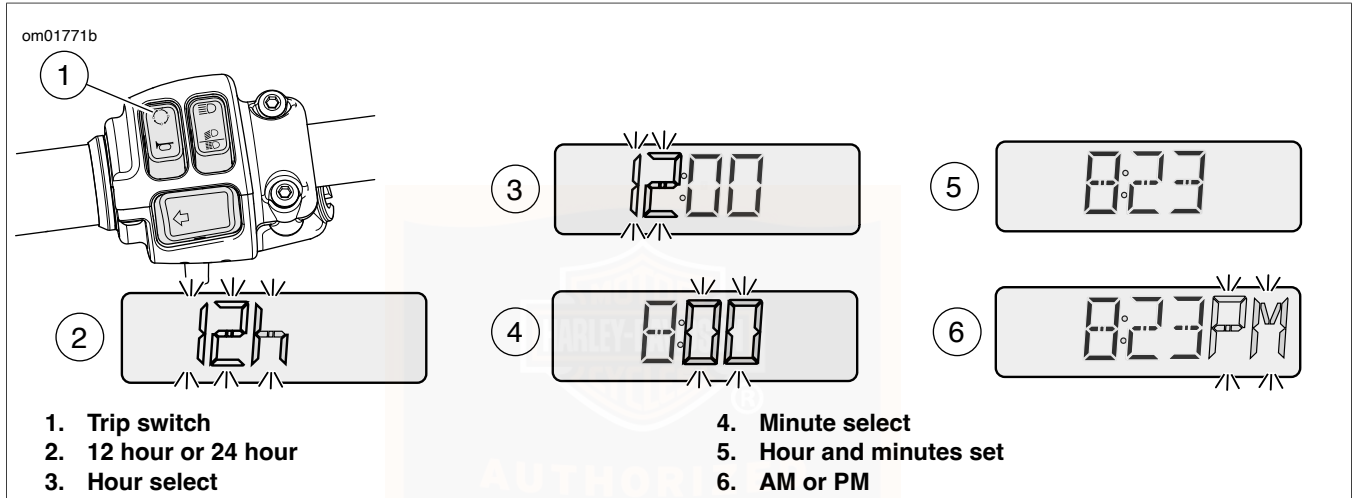

Figure 13. Time Displays
1. See Figure 13. Press and release the TRIP switch (1) until time (hour and minutes) is displayed. Press and hold the TRIP switch until 12h (2) begins to blink in the speedometer display window. Release the switch.
3. When the desired time style is displayed, press and hold the TRIP switch until the hours display (3) is blinking.
5. When the correct hour is displayed, press and hold the TRIP switch until the minutes display (4) starts blinking.
7. When the correct minutes are displayed (5), press and hold the TRIP switch until the display advances to AM or PM (6).